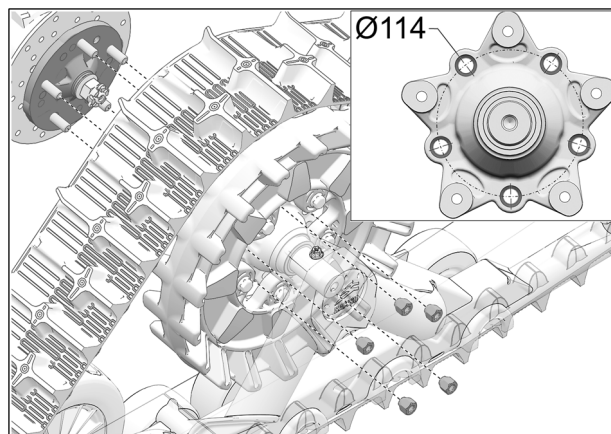

Fig. 17
9. Secure undercarriage to front hub using the vehicle's own lug nuts. Use bolt circle Ø114 mm. See Fig. 17